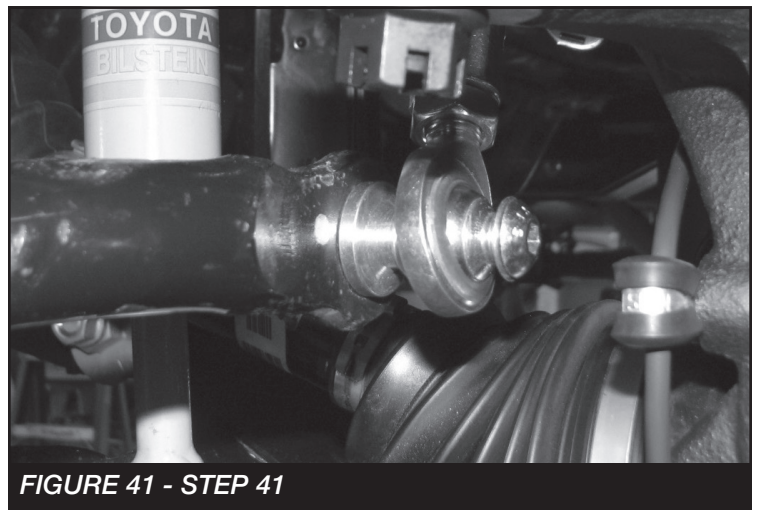
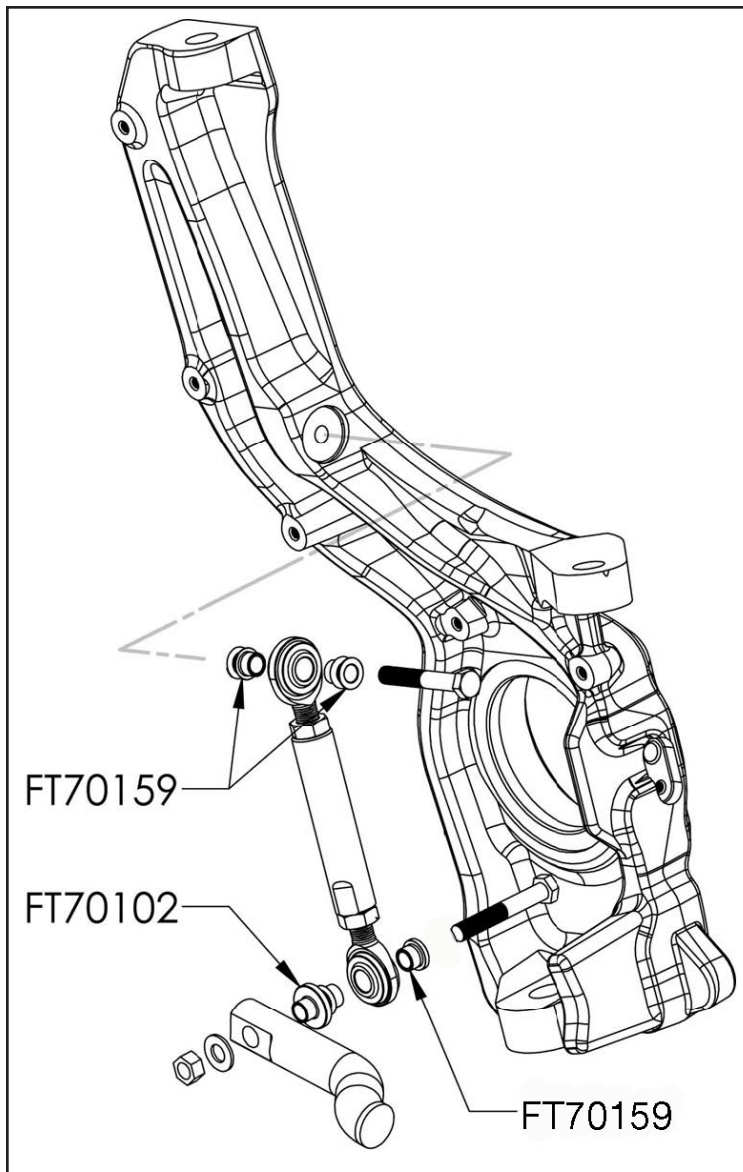

FIGURE 41 - STEP 41
FIGURE 42 - STEP 41
41. Locate FT70105 (Sway Bar End Link), FT95023 (1/2" Heims), and supplied 1/2" Jam Nuts. Thread the jam nuts all the way onto the heims. Insert an assembled heim into each end of the end links and leave loose. Locate FT70102 (sway bar hat) and the supplied 3/8" button head bolt and hardware. Insert the hat and FT70159 alignment into the heim on one end and attach to the sway bar. **SEE FIGURE 41.** Locate FT70159 misalignments and the supplied 3/8" x 3" hardware. Insert the misalignments into the upper heim and attach it to the Fabtech steering knuckle. Torque the 3/8" hardware to 52 ft. lbs. **SEE FIGURE 42**